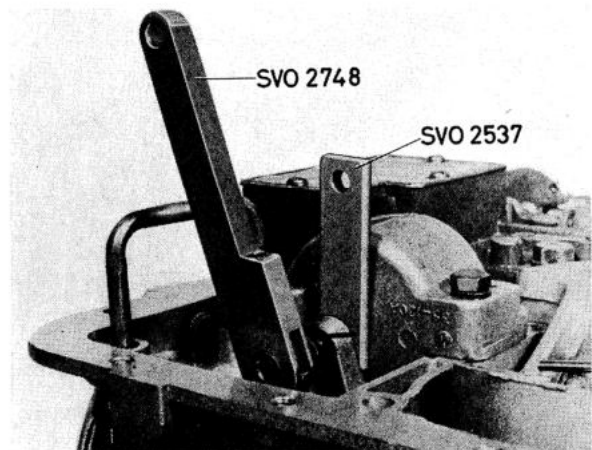

Fig. 4-117. Adjusting front brake band
26. Place the spacer block SVO 2537 between the bolt and cylinder, see Fig. 4-117. Tighten the bolt with torque wrench SVO 2748 until the ratchet handle clicks out. This should be at a torque of 10 lb.in. (11.5 kp/cm).